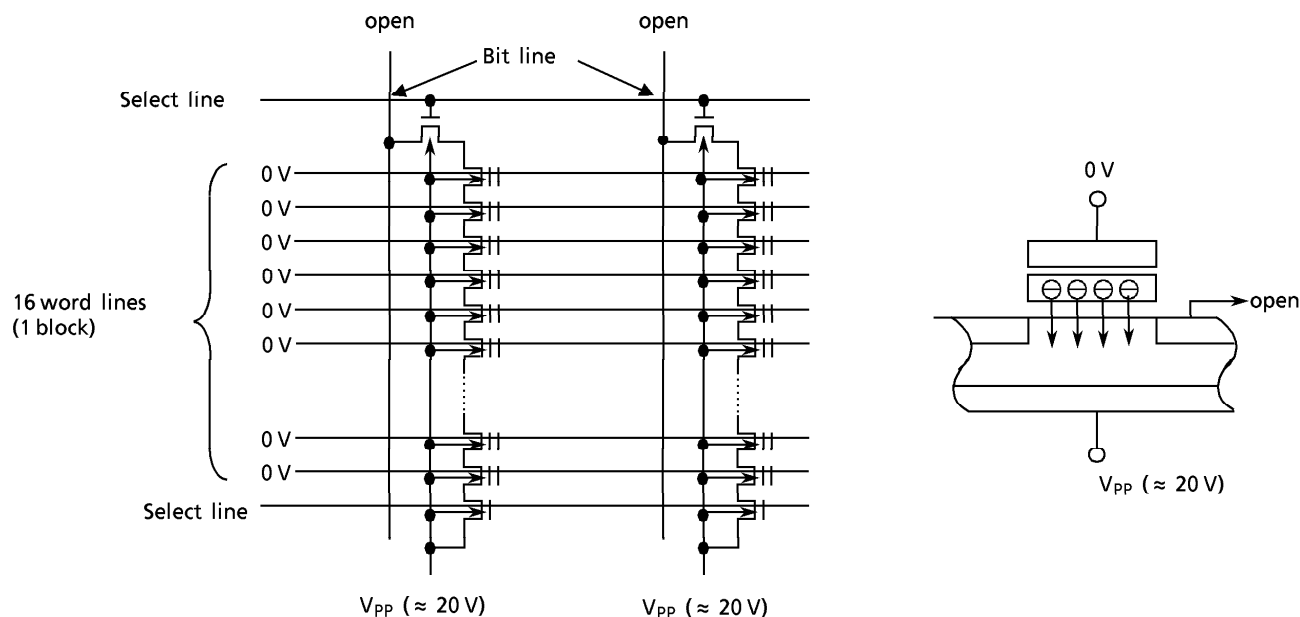

Figure 18. TC5816 Erase Device Physics
- (1) A high level is applied to Select line 1 and a low level is applied to Select line 2 so that the device is connected to the Bit line and disconnected from the ground line.
- (2) V_{pp} ($\approx 20\text{ V}$) is applied to the selected word line and an inhibit voltage of V_{PI} ($\approx 10\text{ V}$) is applied to the unselected word lines.
- (3) 0 volts is applied to the bit line tied to cell transistor TR1 and the inhibit voltage $VDPI$ ($\approx 10\text{ V}$) is applied to the bit line tied to TR2.
- (4) V_{pp} is applied between the control gate and the channel in TR1, as shown in Figure 18, which causes electrons to be injected from the channel to the floating gate by a tunneling mechanism.
- (5) The injected electrons are captured in the floating gate surrounded by an oxide layer and will remain, even after power is cut off, until they are removed by an Erase operation.
- (6) Although 20 volts is applied to the control gate of TR2, the voltage difference between the control gate and the channel is only 10 V because the voltage of the channel is 10 V. Therefore, tunneling does not take place (i.e. the electron is not injected into the floating gate.)
- (7) Tunneling does not take place in the unselected pages because of the 10 V (V_{PI}) applied to the unselected word lines which makes the voltage difference between the control gate and channel only 10 volts.
Figure 18 shows the NAND memory cell level details of the Erase mechanism. The Erase operation is used to turn the “0” (programmed) cells back to “1” in a block. The captured electrons are pulled out from the floating gate to the substrate by a tunneling mechanism. 0 volts is applied to the control gate and V_{pp} (≈ 20 V) is applied to the substrate so that a 20-volt potential is created and the electrons in the floating gate are pulled out by the tunneling mechanism.